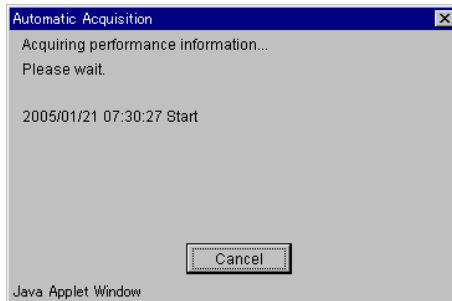

Figure 12.8 Automatic Acquisition Dialog Box
8. Click **Start**. See Figure 12.8.